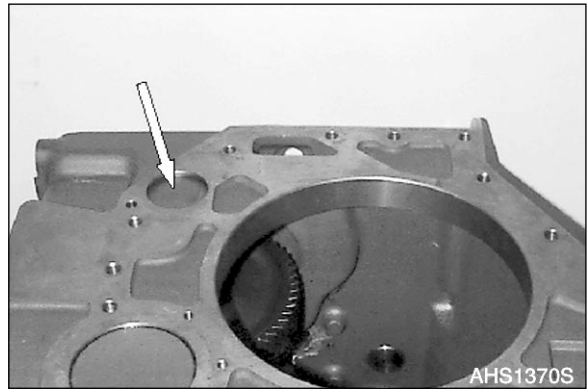

Figure 177
8. Insert sealing disk (Figure 177), with the concave side facing downward, into the housing bore until contact is obtained.